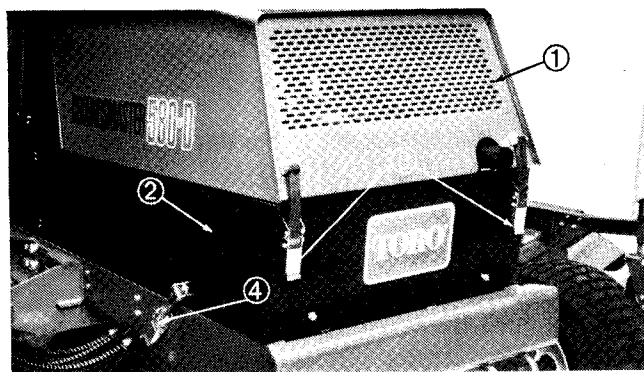

Figure 7
1. Open hood latches, raise hood and secure it in raised position with prop rod (Fig. 7). Open left side panel latch and remove side panel.